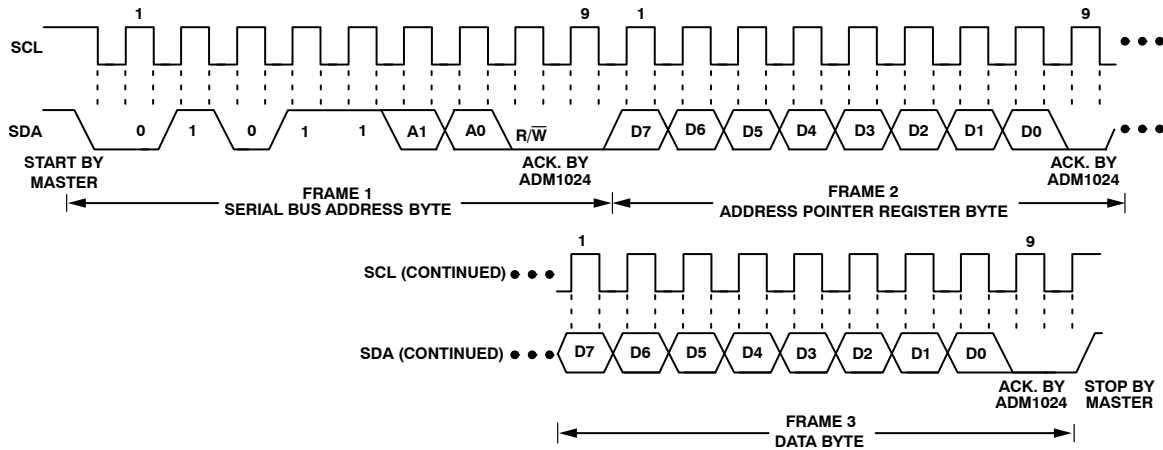
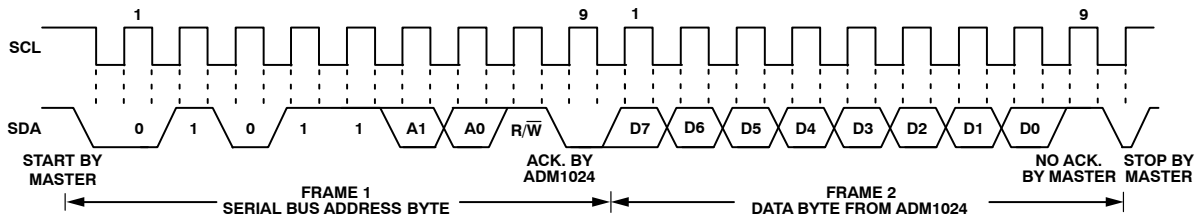

Figure 10. Writing a Register Address to the Address Pointer Register, then Writing Data to the Selected Register
Figure 12. Reading Data from a Previously Selected Register
To write data to one of the device data registers or read data from it, the Address Pointer Register must be set so that the correct data register is addressed, then data can be written into that register or read from it. The first byte of a write operation always contains an address that is stored in the Address Pointer Register. If data is to be written to the device, the write operation contains a second data byte that is written to the register selected by the Address Pointer Register. This is illustrated in Figure 10 The device address is sent over the bus followed by R/ \overline{W} set to 0. This is followed by two data bytes. The first data byte is the address of the internal data register to be written to, which is stored in the Address Pointer Register. The second data byte is the data to be written to the internal data register.
the serial bus address, R/W bit set to 1, followed by the data byte read from the data register. This is shown in Figure 12.
2. In Figure 10 to Figure 12, the serial bus address is shown as the default value 01011(A1)(A0), where A1 and A0 are set by the three-state ADD pin.